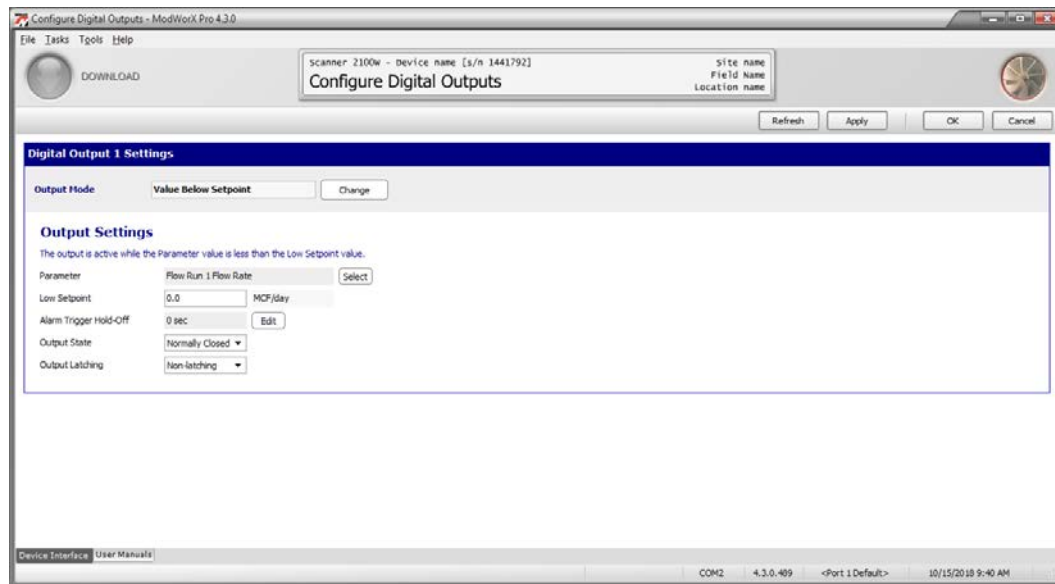

Figure 7.15
- Click **OK** to save the setting and return to the Configure Digital Outputs screen (Figure 7.15). In this example, the alarm output is configured to activate when the value is below the designated threshold.
7. Change the output state, if necessary (Figure 7.15, page 95). Options are Normally Open and Normally Closed.
8. Change the Output Latching setting, if necessary (Figure 7.15, page 95). Options are Non-latching and Latching. If the alarm is latched, it will remain active once it is activated, even if the assigned parameter value returns to a normal range. The alarm must be manually cleared by the operator. If the alarm is non-latching, the alarm will clear when the assigned parameter value returns to a normal range without intervention from the operator.